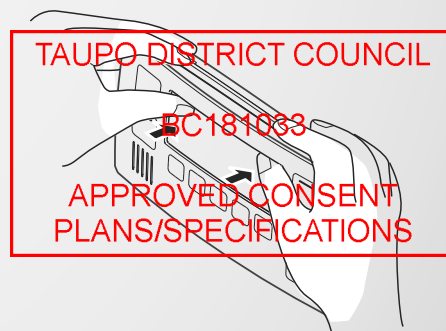

Fig.4
5. Carefully remove the face plate from the controller. Do this by placing your thumbs on the front digital display while hooking your fingers behind the top plate and gently push down as shown (Fig.4). Do not use a screwdriver as this may damage the controller.